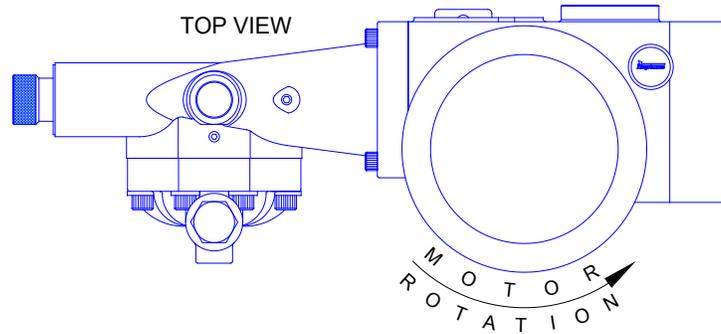

FIGURE 1
- Please note Figure 1, indicating the correct rotation. (An arrow on the gear box also indicates proper rotation.) Operation with the incorrect rotation will damage the pump and motor.
1.0.6 The electrical supply to the pump must match the motor nameplate characteristics. The motor rotation is counter clockwise when viewed from the top of the motor or looking down on the pump. An arrow mark on the gearbox shows the rotation (See Figure 1)
Please note Figure 1, indicating the correct rotation. Operation with the incorrect rotation will damage the pump and motor.